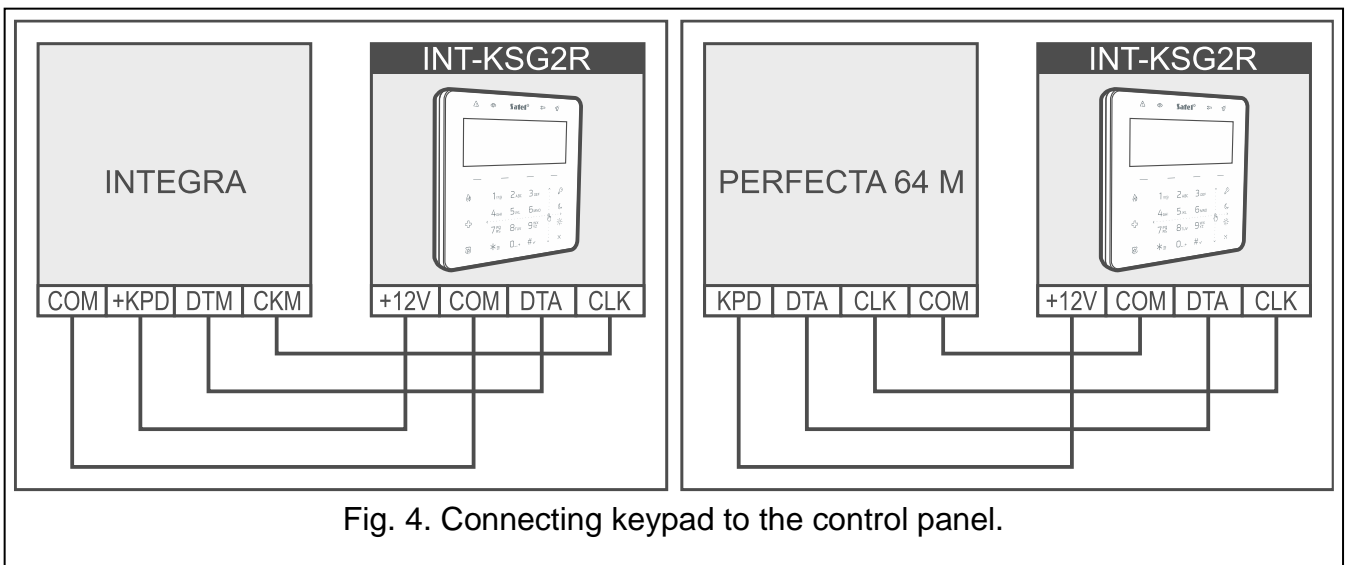

Fig. 4. Connecting keypad to the control panel.
6. Connect the DTA, CLK and COM keypad terminals to the appropriate terminals of the control panel communication bus (Fig. 4). To make the connection, use an unshielded non-twisted cable. If you use the twisted-pair type of cable, remember that CLK (clock) and DTA (data) signals must not be sent through one twisted-pair cable. The wires must be run in one cable. The length of wires must not exceed 300 m.